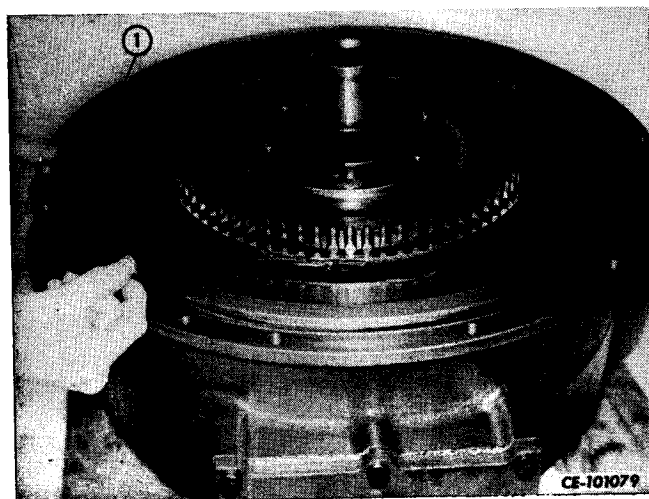

Figure 3-15
Remove seal ring (1, Fig. 3-15) from drive housing (2). Discard seal ring.